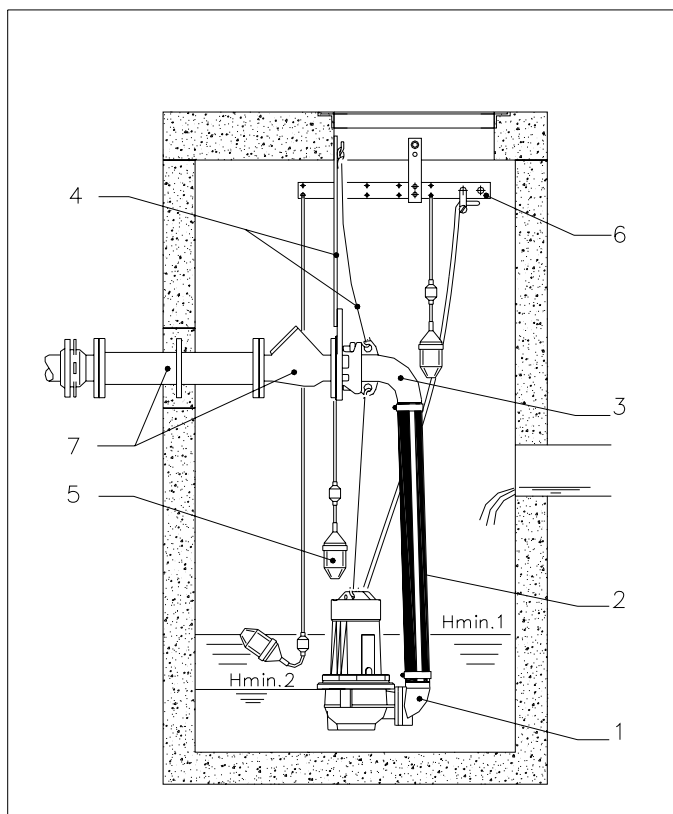
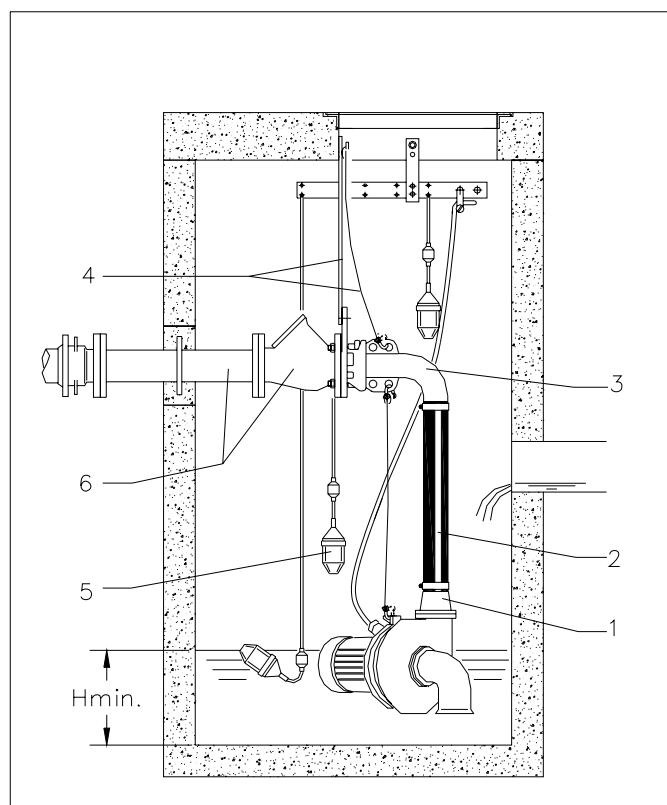

Fig. 6.1
Fig. 6.2
Most of the RW20 pumps (except types with a large pumpcasing) will have a vertical position, see Fig. 6.1. All RW 40 and RW60 pumps are horizontally placed, see Fig. 6.2. Not available for RW80.
- Check that the motor is adequately cooled. The motorhousing should be at least 2/3 submerged for continuous operation at full load (see Hmin.1 Fig. 6.1).
For interrupted level controlled operation, less cooling is required. We recommend not to run the pump with the water level below the top of the volute in order to avoid air being drawn in (see Hmin.2 Fig. 6.1).